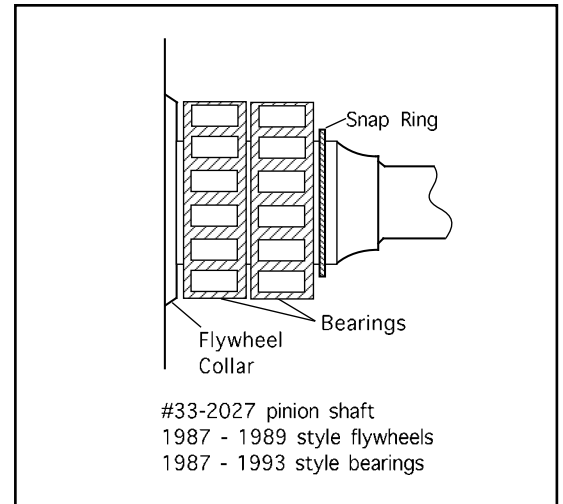

Figure 6
3. 1987 to 1989 big twin or S&S SL or BL style flywheels for 1981 and later, and S&S pinion shaft 33-2027 - No thrust washers are normally used. Typical arrangement - bearings against flywheel, and snap ring directly against bearing. **See Figure 6.**